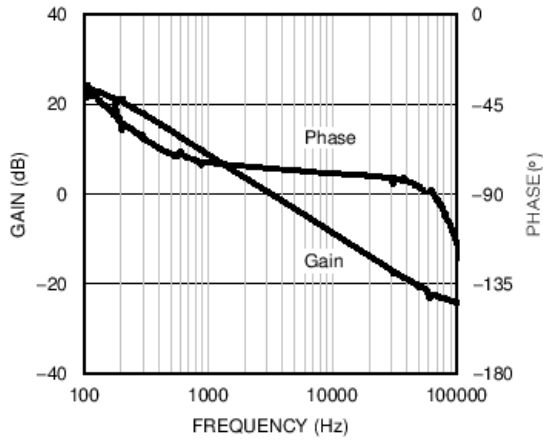
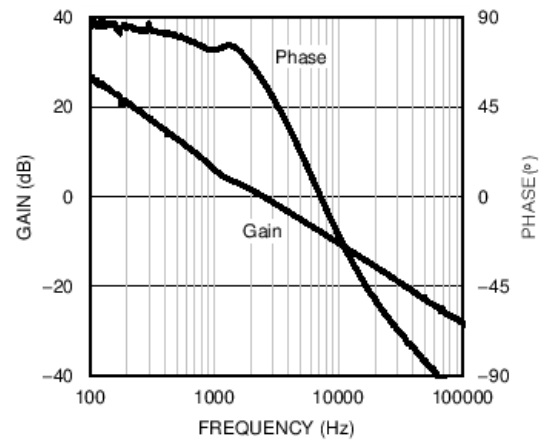

Figure 20. Modulator Gain and Phase - Buck Mode
Figure 25. Overall Loop Gain and Phase - Buck Boost Mode
The plots in Figure 20 through Figure 25 illustrate the gain and phase diagrams of the design example. The overall bandwidth is lower in a buck-boost application due the compensation challenges associated with the right-half-plane zero. For a pure buck application, the bandwidth could be much higher. The LM5116 datasheet is a good reference for compensation design of a pure buck mode regulator.
- Changed Figure 20 27
- Added Figure 25 27